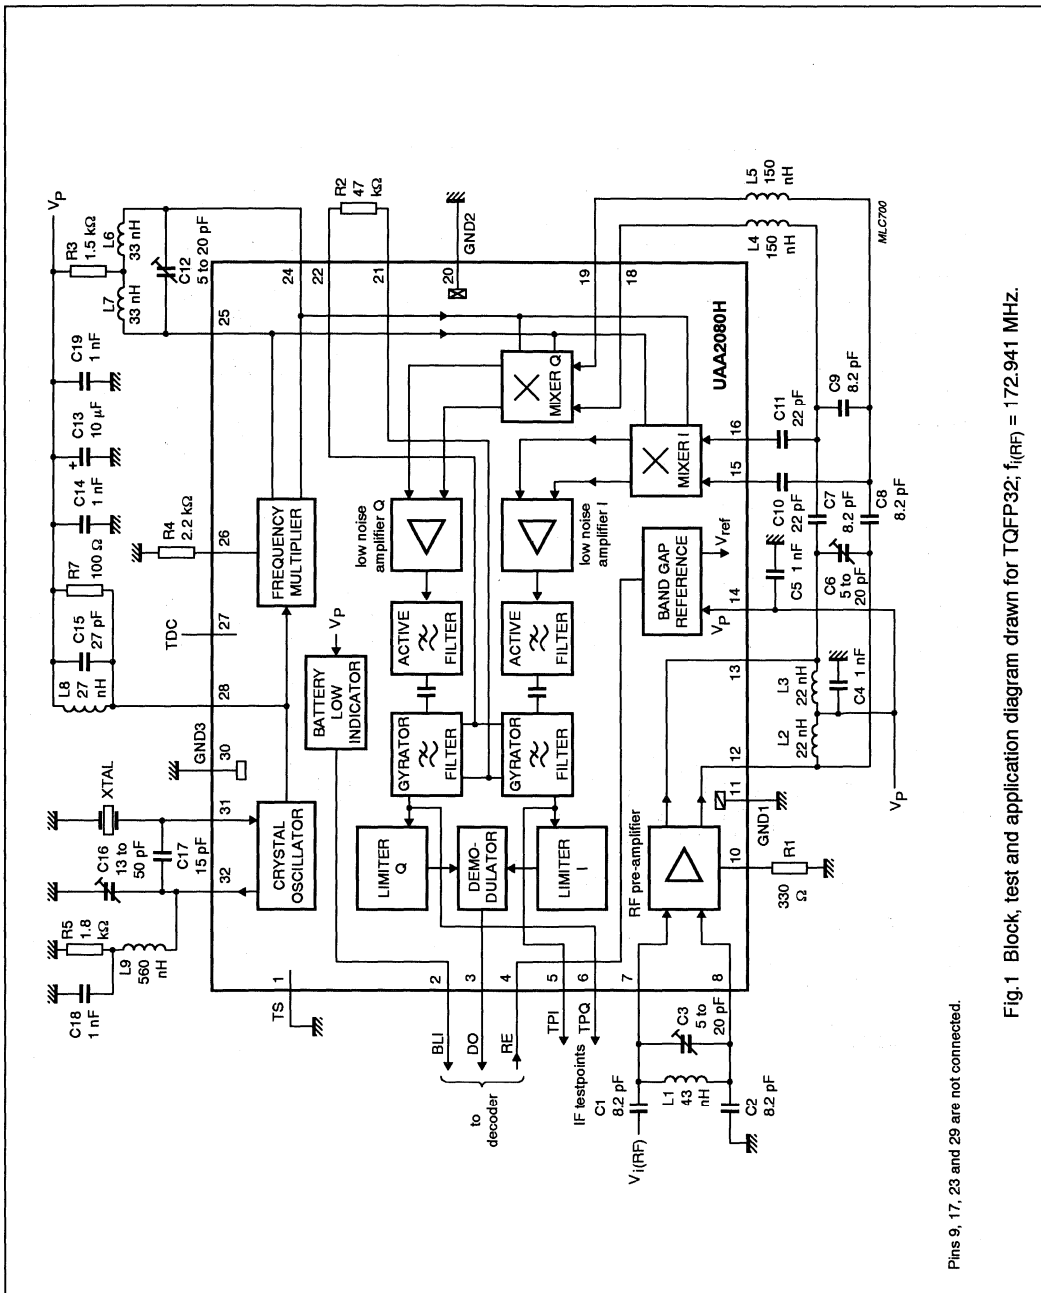

Fig.1 Block, test and application diagram drawn for TQFP32; fr(RF) = 172.941 MHz.
**Table 1** Tolerances of components shown in Figs 1 and 2 (notes 1 and 2)